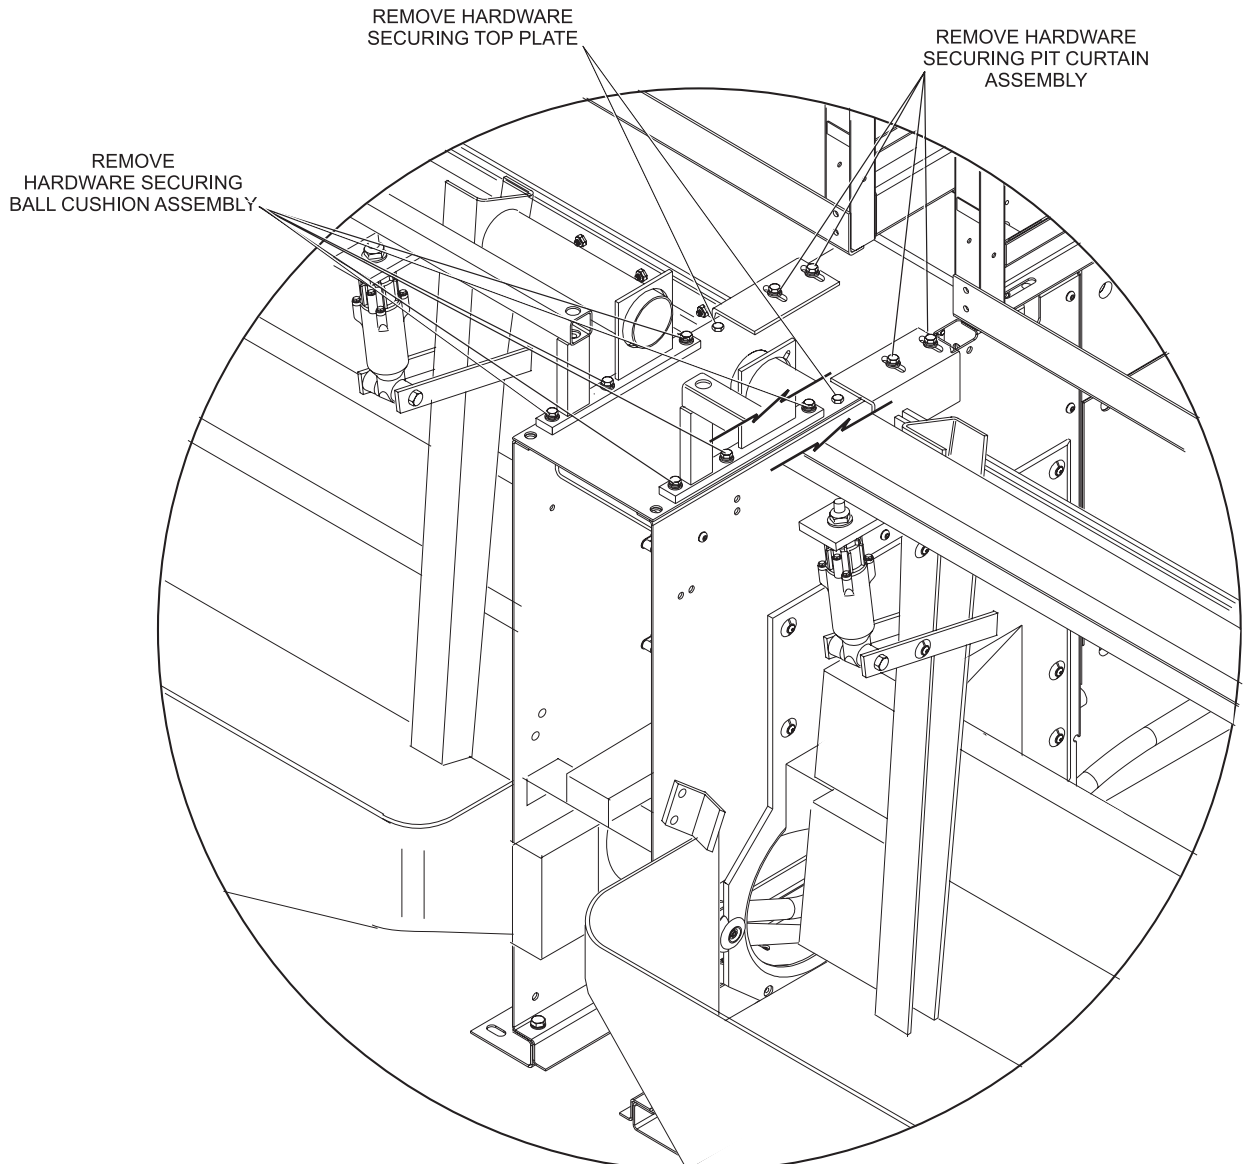

Figure 2
2. Remove the six hex head cap screws and locknuts securing the ball cushion assemblies to the ball box. Refer to *Figure 2*.
3. Remove the four hex head cap screws, flat washers and locknuts securing the pit curtain assemblies to the ball box. Refer to *Figure 2*.
4. Remove the two hex head cap screws and locknuts securing the top plate to the ball box. Refer to *Figure 2*.